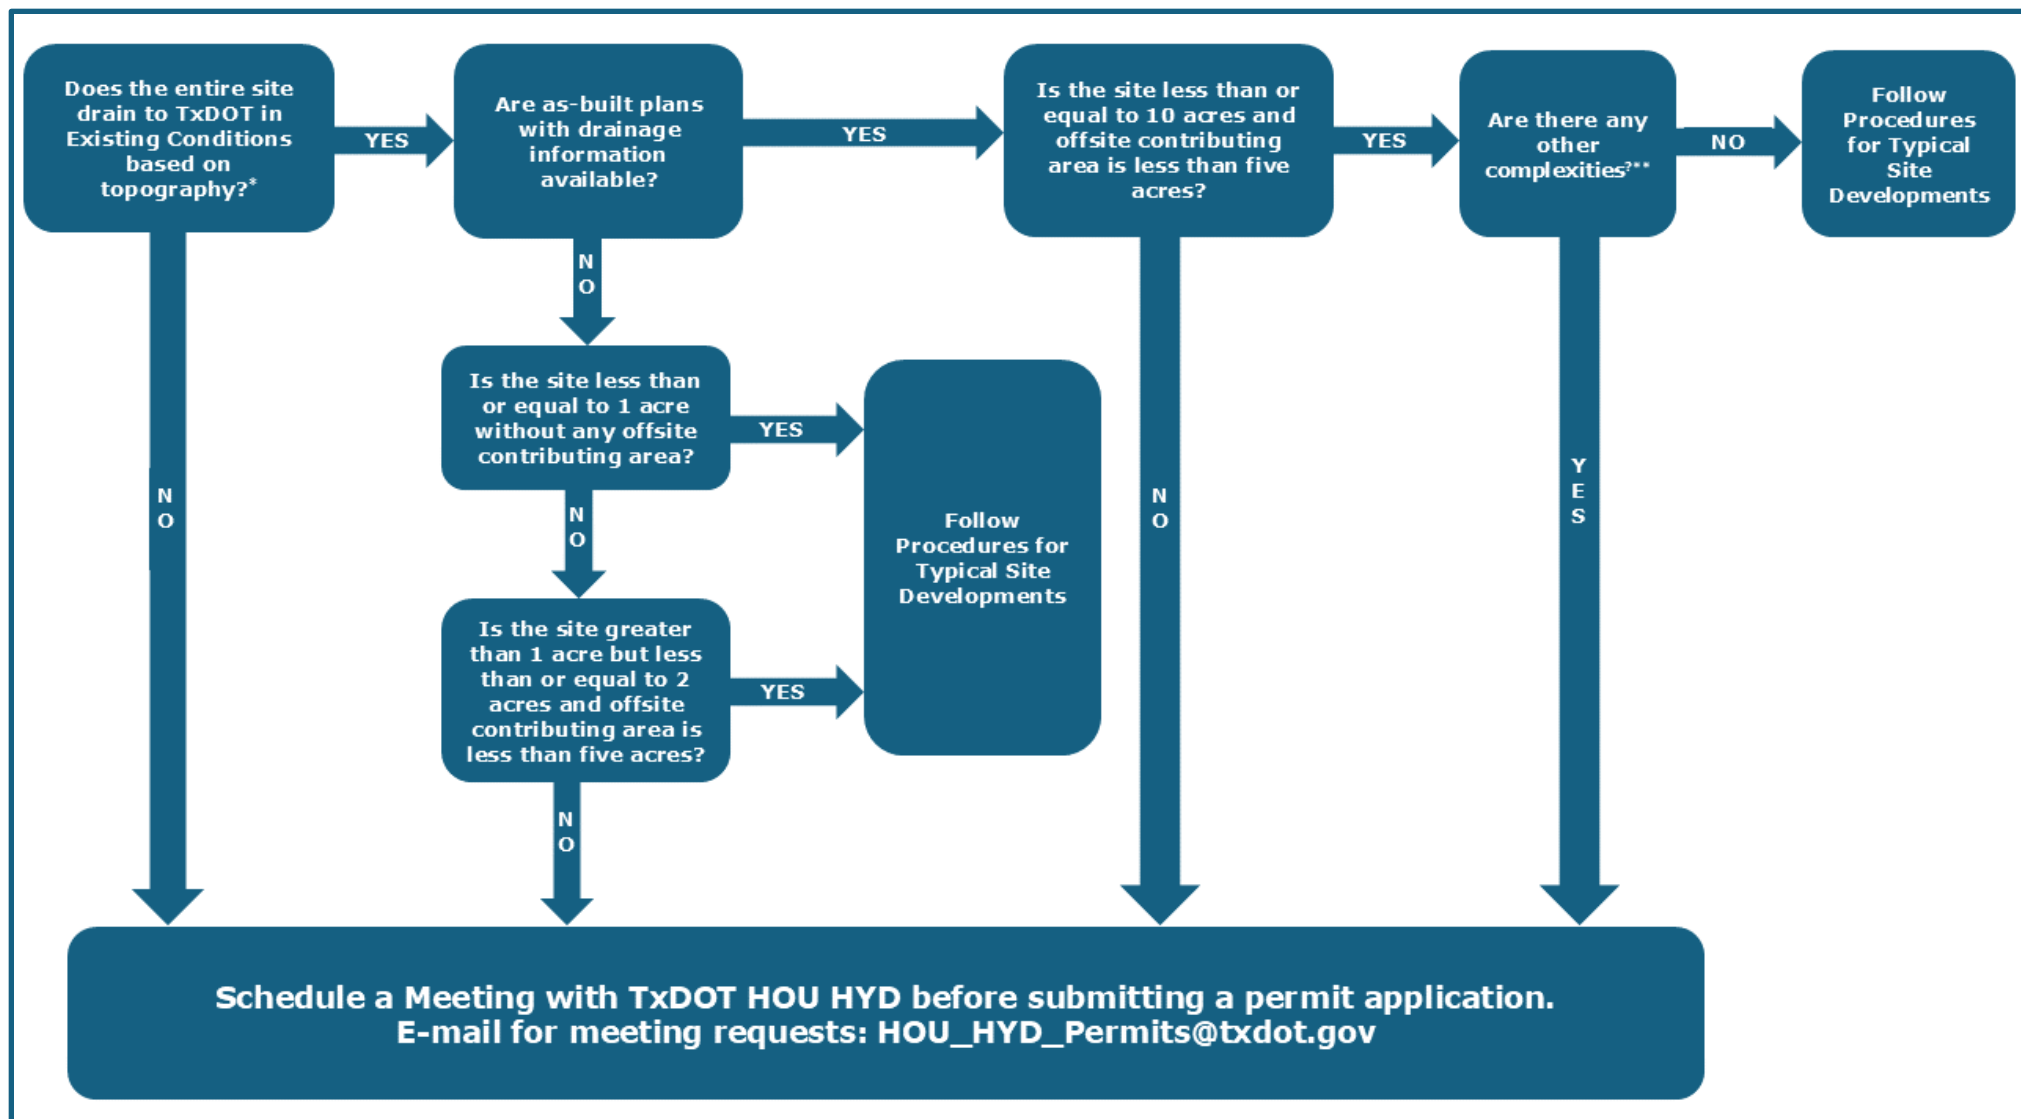

Figure 2: Procedure Flow Chart
3. Refer to Figure 2 flow chart to determine if the proposed site will require a meeting with TxDOT HOU HYD prior to submitting a permit application. Meeting requests should be sent to HOU_HYD_Permits@txdot.gov.